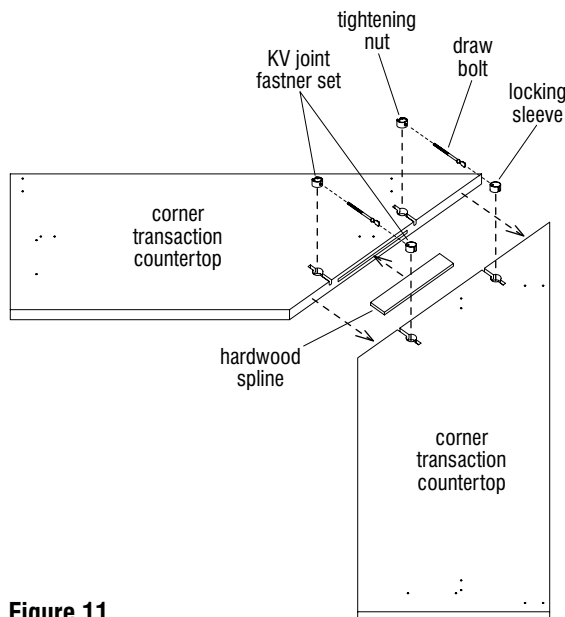

Figure 11
1. Place the two corner counter surfaces to be joined upside down on a soft protective surface. Position the surfaces as illustrated, then locate and identify the KV joint fastener components from the hardware pack (Figure 11).
2. Center the hardwood spline into the routed slot in one corner top to be joined. Press the two tops together, aligning the hardwood spline. Check to make sure the tops join together completely with the spline in place. If they do not, sand the spline if necessary or adjust its location in the slot (Figure 11).
3. Assemble KV fasteners by first twisting a draw bolt into each tightening nut a few turns, then press each pair into a  $\frac{7}{8}$ " hole and slot in the underside of the transaction countertop surfaces to be joined. The flat-end of each draw bolt will be visible in the  $\frac{7}{8}$ " hole on one side of the units being joined. One at a time, position each locking sleeve as illustrated and insert locking sleeves into the  $\frac{7}{8}$ " holes so that the slotted sleeve engages the rounded collar on the bolt (Figure 11).
4. Tighten the nut with a tightening tool or a nail-set. Check the front and back edges, and more importantly the top side of the joint for proper alignment. The top-side joint should be smooth and level with no gaps. Adjust as necessary to achieve a "seamless" look (Figure 11).